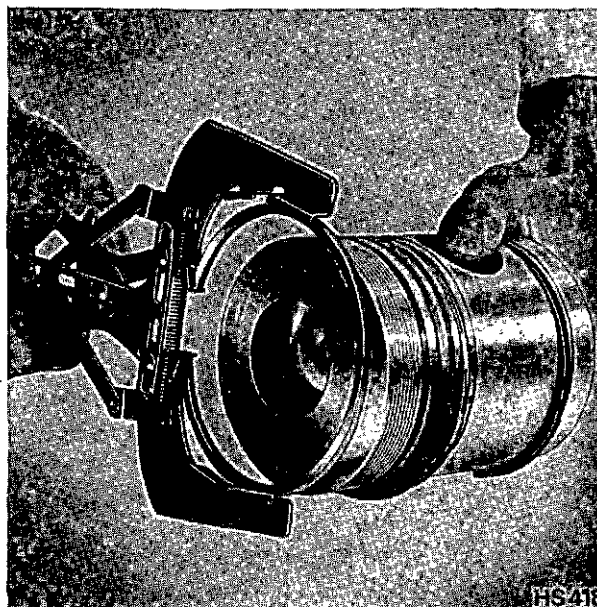

Fig. 52 Fitting Piston Rings
- (b) Fit piston rings as detailed on page 48 (Fig. 52).